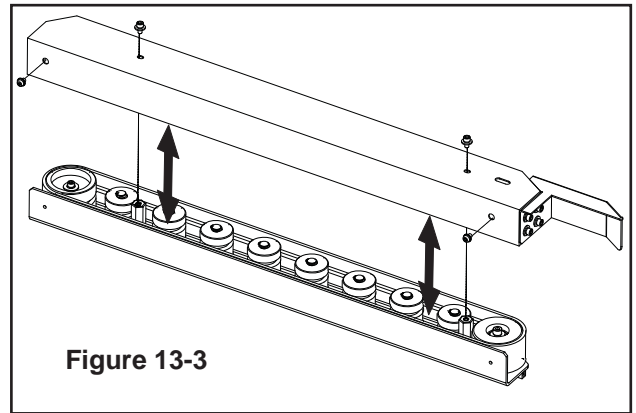

Figure 13-3
1. Loosen belt cover screws and remove the belt cover (**Figure 13-3**).